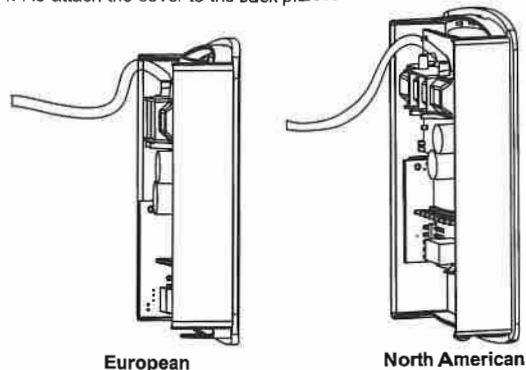

Figure 6: Calibration
- Step 2: Remove one of the gas nipple covers on the CO₂ sensor and attach tubing from the gas pressure regulator to the nipple (See Figure 6).
- Step 4: Hold housing so that the sensor is in the vertical plane as shown in Figure 6.